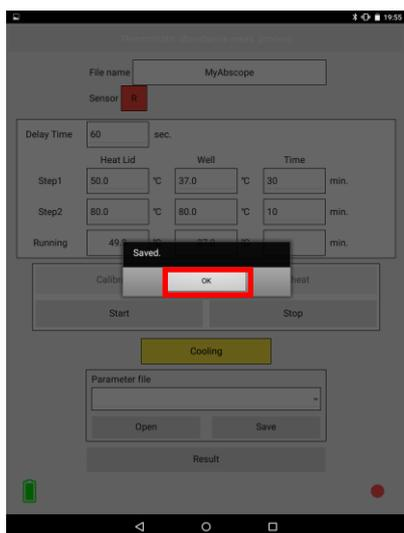

Figure 4-20: Indication of Saved state
If you tap “Yes,” you will be informed that the data is saved as shown in Figure 4-20. Then tap “OK.” The process data before the stop is saved in the CSV format (with the file name entered in the input field (1) on the thermostatic absorbance measurement process setting screen, which is suffixed with “_yymmddhhmmss.csv” (see “5. Data Analysis,” (CSV file)). Three seconds after you tap “Yes,” the cooling fan starts to operate and the status indication changes to “Cooling” as shown in Figure 4-21. When both the HeatLid temperature and Well temperature have fallen below 35°C, the status indication changes to “Ready” as shown in Figure 4-22.